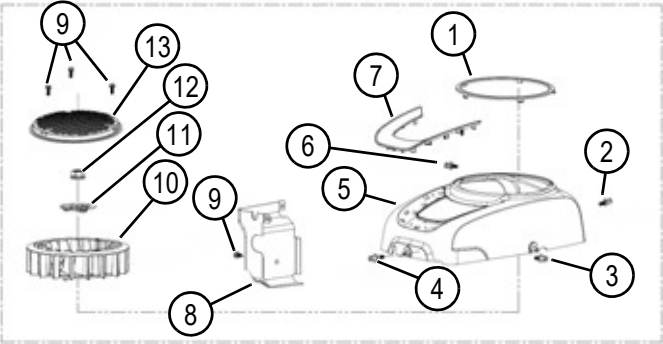

Figure 4-5: Engine Cover Assembly
- 1. See Figure 4-5. Place one test lead on the ignition coil primary terminal and one on the coil ground as shown to measure primary coil resistance. Be certain grounding point is clean in order to obtain an accurate reading.